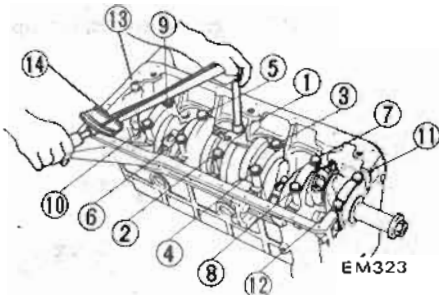

Fig. EM-91 Torque sequence of cap bolts
- d. Tighten bearing cap bolts gradually in two to three stages outwardly from center bearing in the sequence as shown in Figure EM-91.